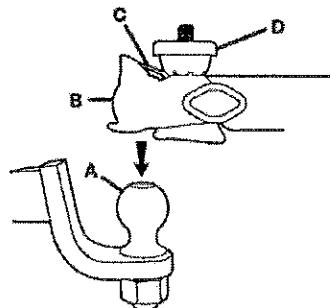

Fig. 2
Push down on the latch (C) and fully loosen hand-wheel (D) by turning counter-clockwise. Lower the coupler (B) onto the hitch ball (A) as shown (Fig 2).